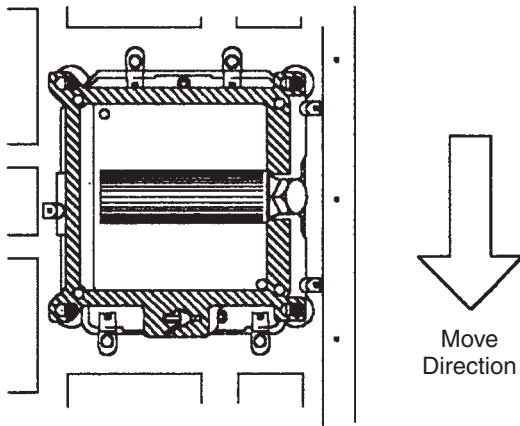

Figure 4-96. TCM Cammed Position
- Move the cam guard to its left side to insert the TCM actuation tool (see Figure 4-96).